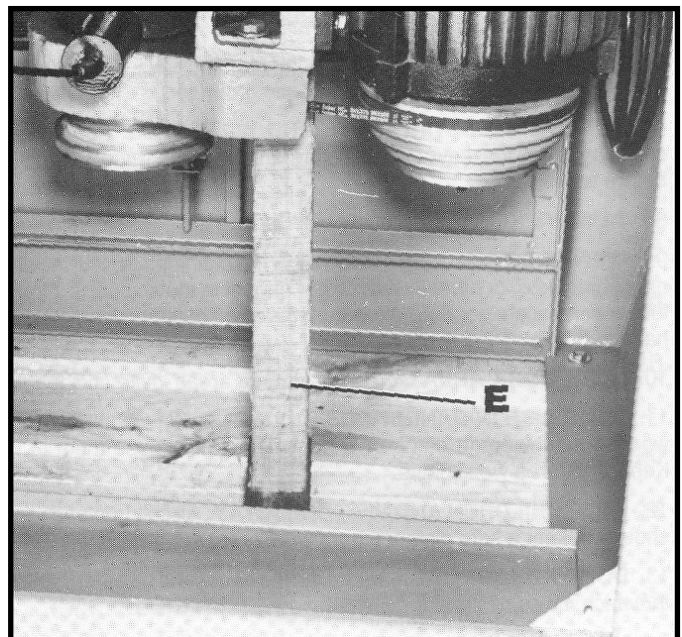

Fig. 8
5. Remove the motor and spindle support block (E) Fig. 8, located inside the shaper cabinet.